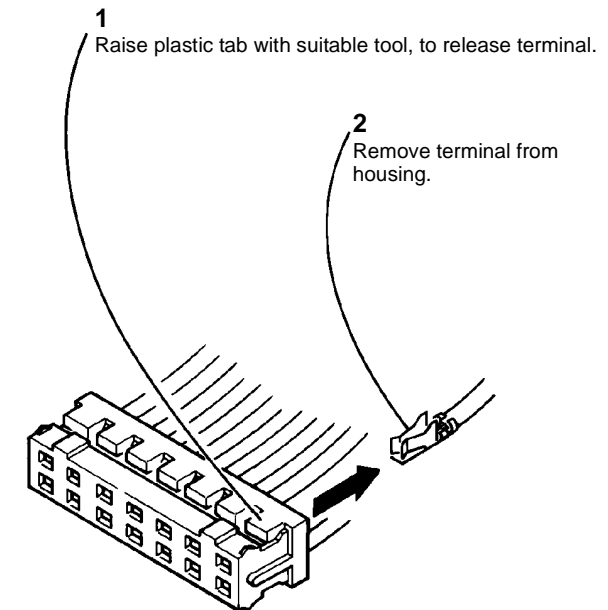

Figure 1 Terminal removed
1. **Figure 1.** Remove the damaged terminal from the connector housing.